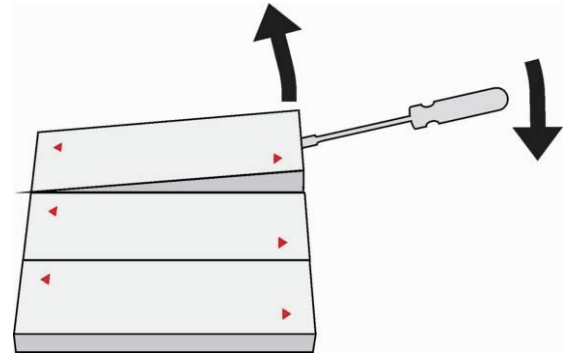

Figure 2.8 Name Plate Removing
14. Take out the name plates from the plastic cover as shown in Figure 2.8. Use a flat-bladed screwdriver, for example.